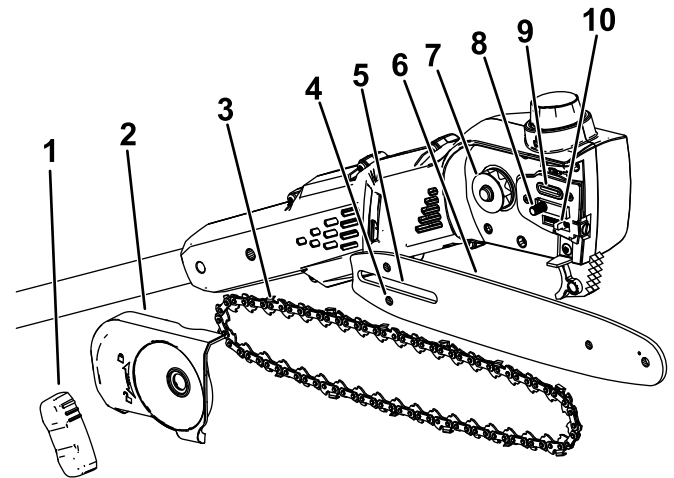

Figure 20
7. Check the oil outlet (Figure 20) for debris and clean the area if necessary.
**Important:** Ensure that the chain adjusting stud is inserted into the chain adjusting stud slot on the guide bar (Figure 20). You may need to rotate the chain-tensioning screw to fit the stud into the hole in the guide bar.